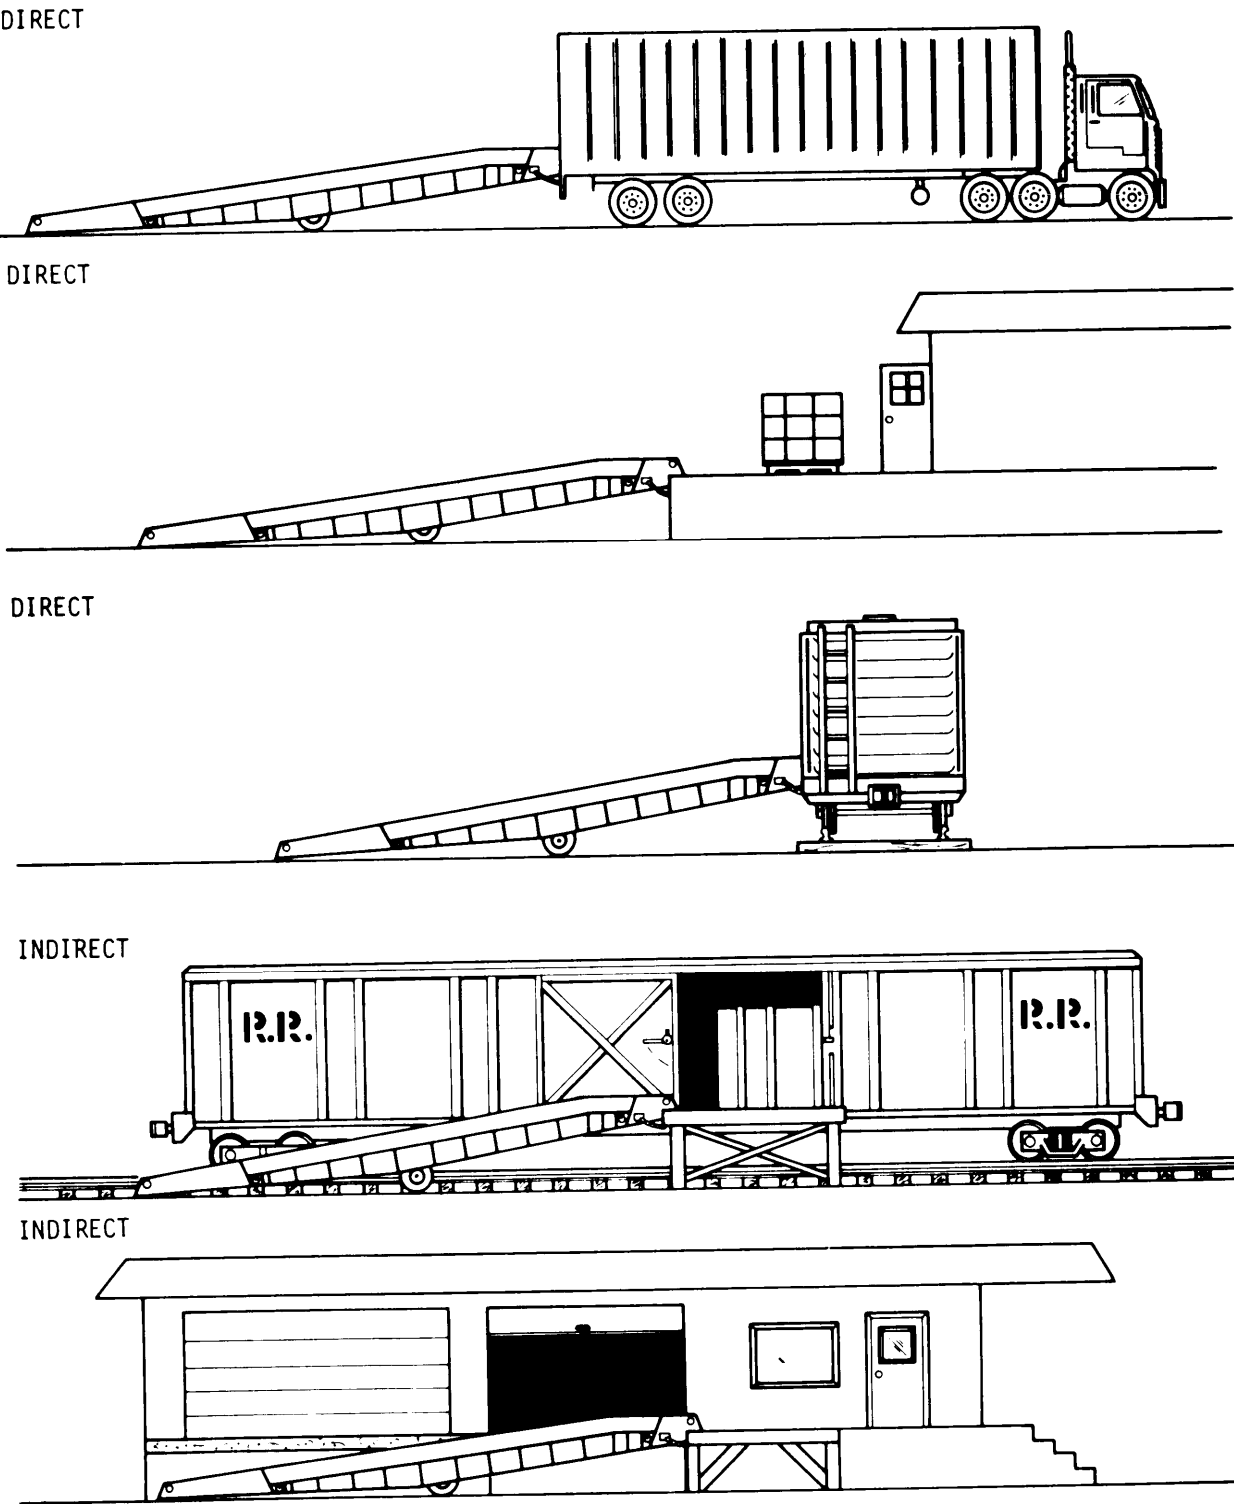

Figure 4-3. Ramp Alignment Examples
4.2.1 The ramp can be setup in a direct alignment with the work surface or in an indirect alignment with the work surface (Fig. 4-3).
a. Position the high end of the ramp towards the work surface (Fig. 4-3).
4.2.3.1 When the working area directly behind the work surface is limited, such as a railyard or crowded shipping yard, and there is not enough room to set the ramp up directly in line with the work surface, the ramp may be used with a platform to gain access to the work surface (Fig. 4-3).
Due to the weight and turning radius of rough terrain forklifts, special care should be exercised in utilizing platforms with the ramp (Fig. 4-3).